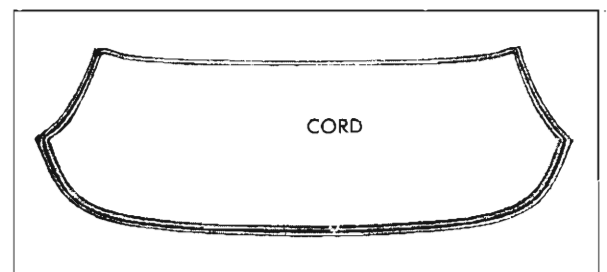

Fig. 2-9 Windshield Installation
3. Install a strong cord in pinchweld cavity of rubber channel completely around windshield. Tie ends of cord and tape to inside surface of glass at bottom center of glass (Fig. 2-9).